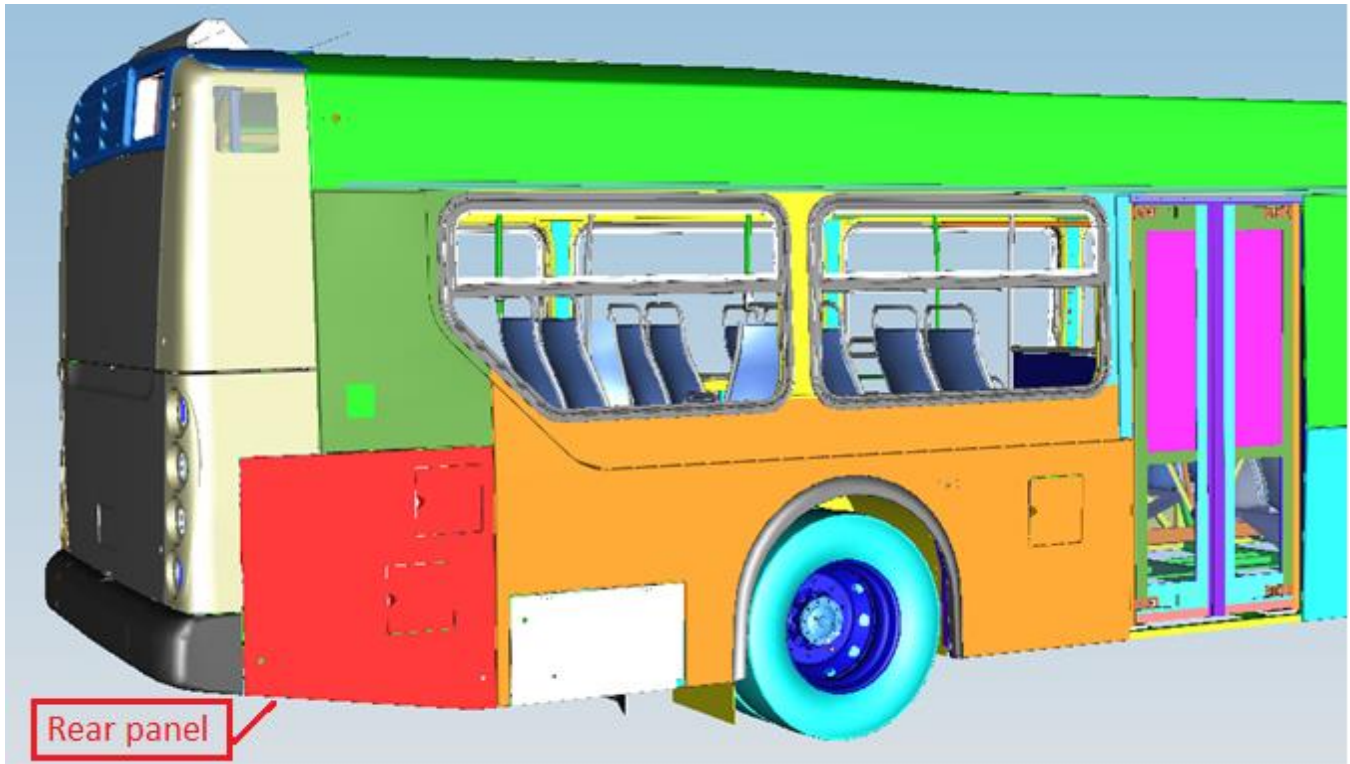

Figure 1: Fuse box location
3. Locate the fuse box by gaining access through the rear panel access door on the curbside of the bus as seen in Figure 1 above.